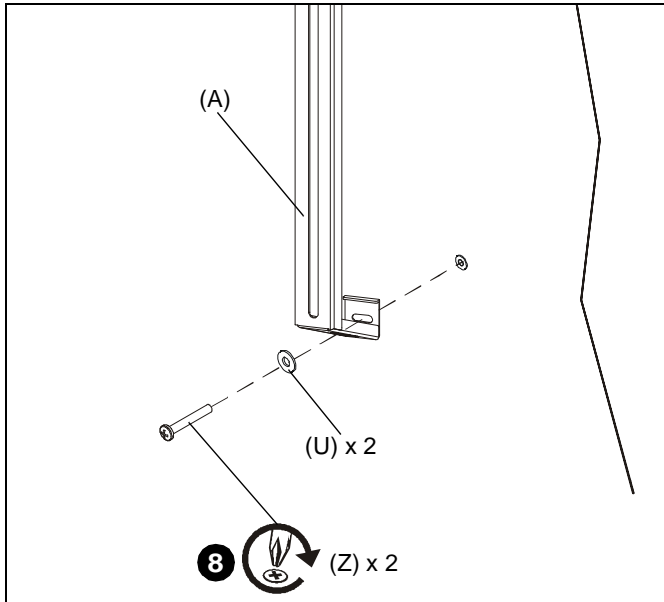

Figure 17
- Use two 1/4-20 x 1 3/4" Phillips pan machine screws (Z) and two 1/4" flat washers (U) to attach both adjustable legs (N) to anchors in wall. (See Figure 17)